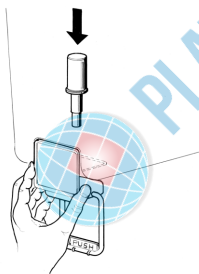

figure 5
- 3 Gravity faucet:** install the faucet handle and the piston with its gasket (see figure 5).